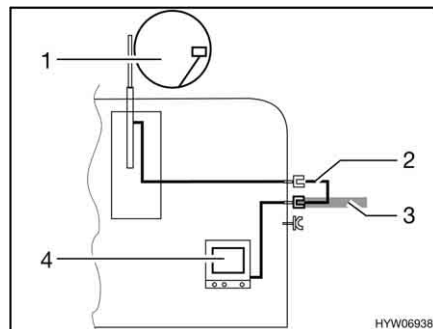

Fig. 183 TV inside the vehicle
- TV inside the vehicle (Fig. 183,4): Connection to roof antenna (Fig. 183,1) with connection cable (Fig. 183,2)
- TV inside the vehicle (Fig. 183,4): Connection to external antenna (Fig. 183,3)